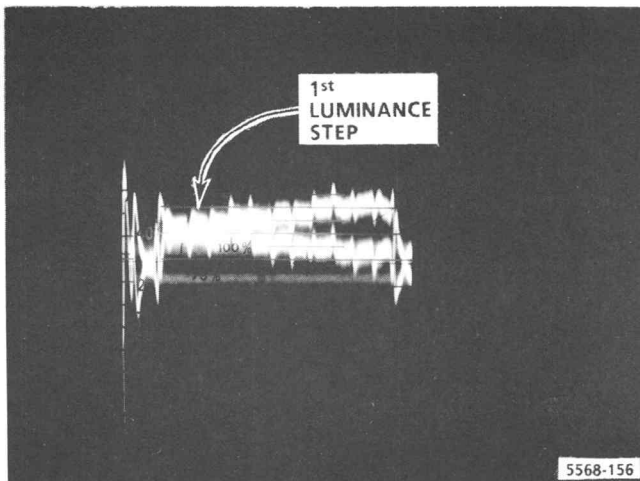

Fig. 4-21. Typical display when checking differential phase.
- c. Set the vectorscope mode to **diff phase**, **diff phase** switch to **double**, and use the channel A phase control to overlay the first luminance steps. See Fig. 4-21.